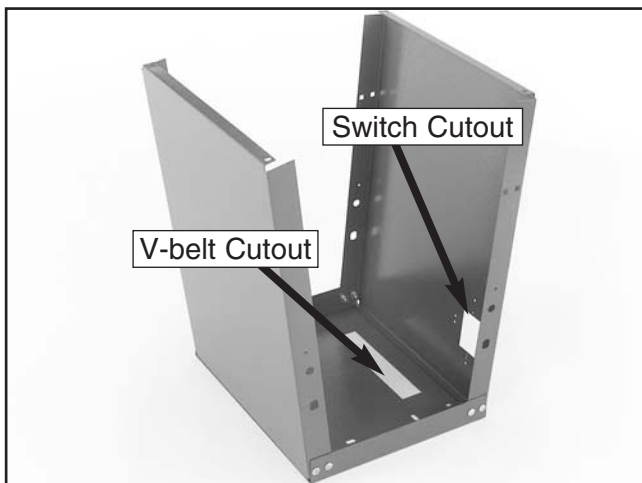

Figure 7. Stand sides attached to stand top.
1. Attach the stand sides to the stand top as shown in **Figure 7**. Make sure the side of the stand with the switch cutout is on the same side as the V-belt cutout on the top piece. This will ensure that the switch is in front of the bandsaw. Do not completely tighten the carriage bolt nuts at this time.